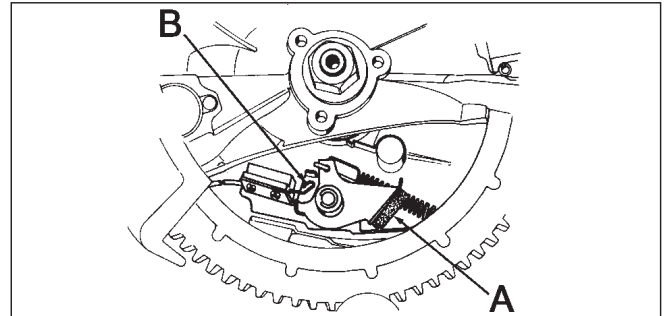

Fig. 2
- TO START THE ENGINE (Fig 2). In order to restart the engine, the brake control must be applied. This action pulls the brake pad (A) away from the inside edge of the flywheel and opens the ignition ground switch (B). On electric start systems the starter is energized to start the engine. On non-electric start systems, recoil starter rope must be pulled to start engine.